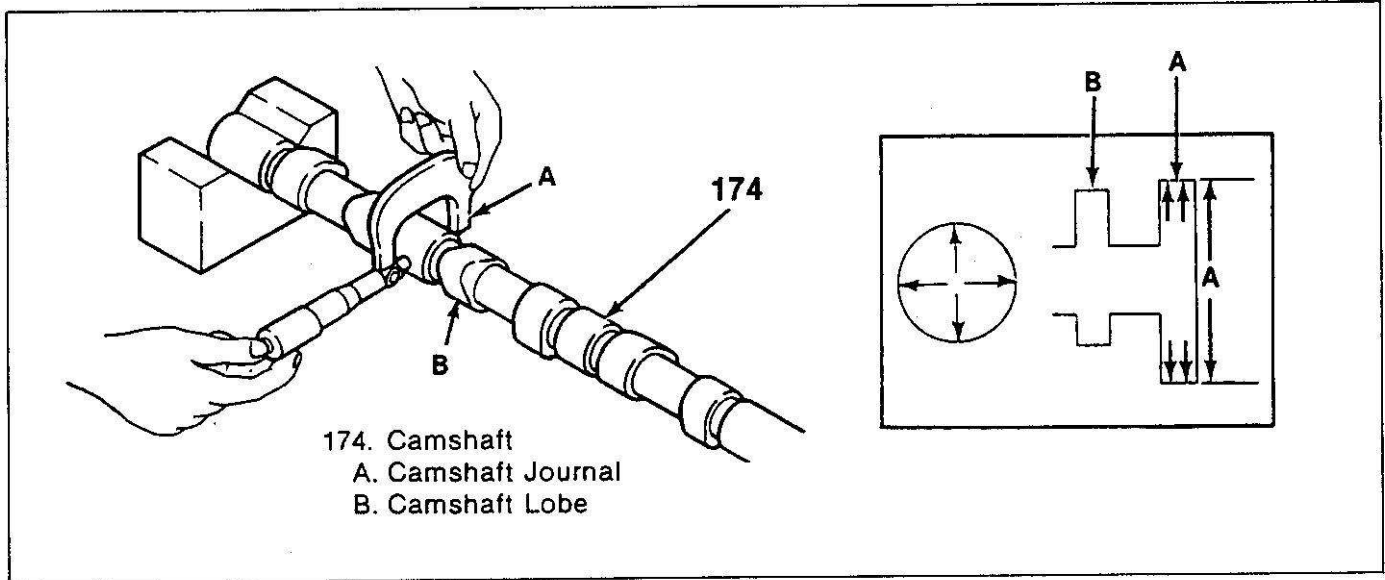

Figure 91. Measuring the Camshaft Journal
4. Camshaft (174) journal diameter using a micrometer (figure 91). Measure in two places, as shown.